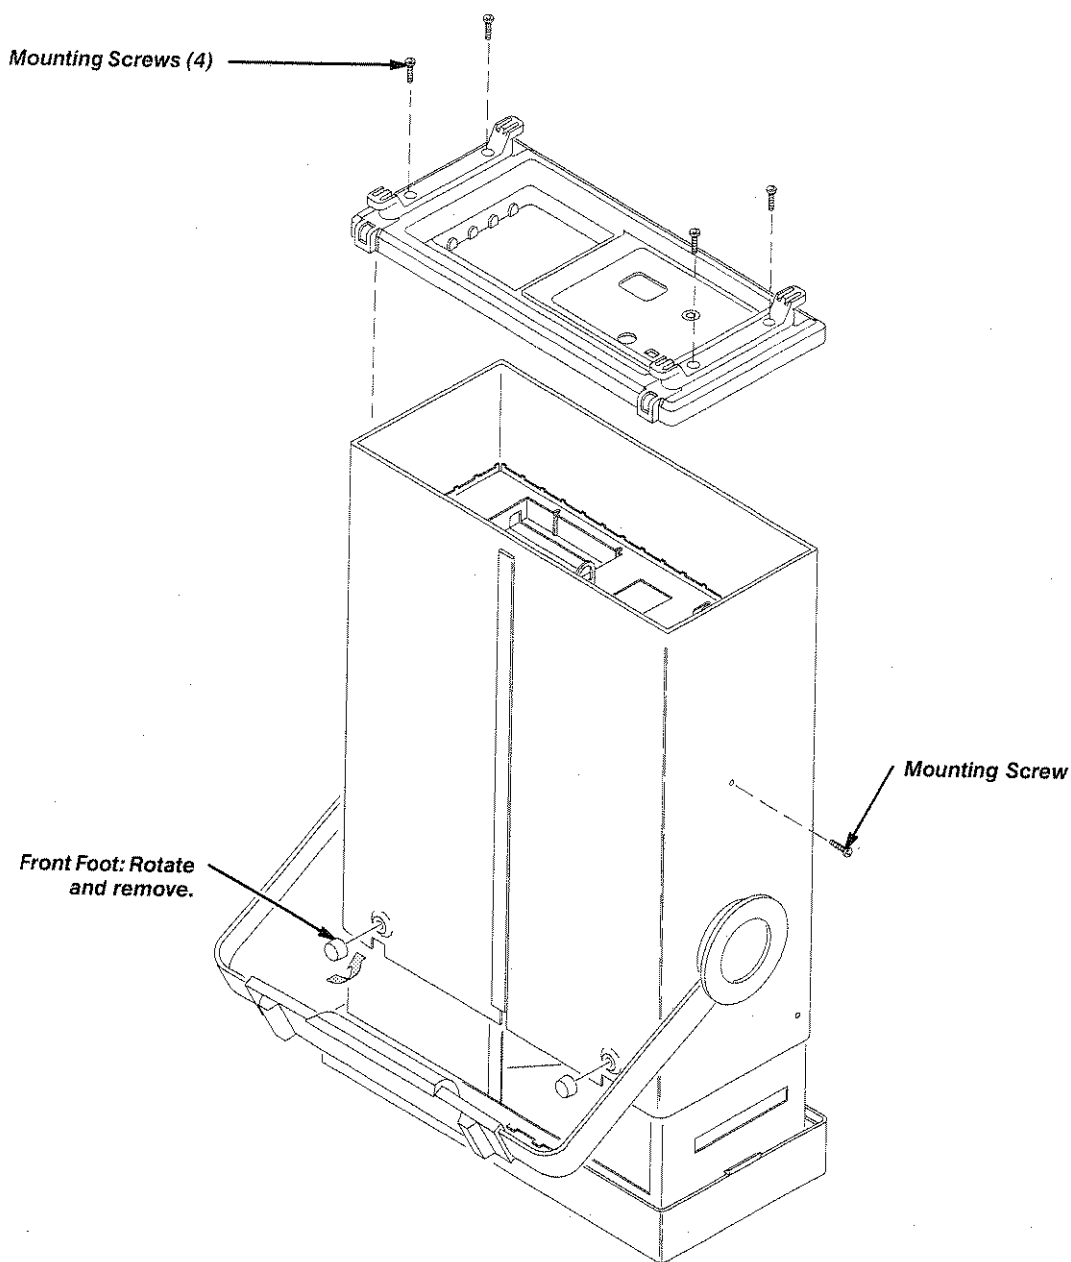

Figure 8-4: Rear Cover, Cabinet, and Feet Removal
Before removing the rear cover or cabinet, install the optional front cover on the front panel of the oscilloscope (if available) and then position the oscilloscope as indicated in Figure 8-4.
1. Position the oscilloscope as indicated in Figure 8-4.